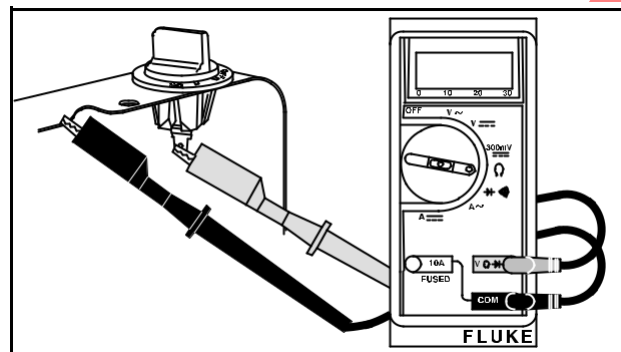

Fig. 107 – CHECKING ROTARY STOP SWITCH
2. Using Tool #19357, Digital Multimeter, set meter to ohms ( $\Omega$ ) and connect test leads to blower housing and to stop switch terminal, Fig. 107.